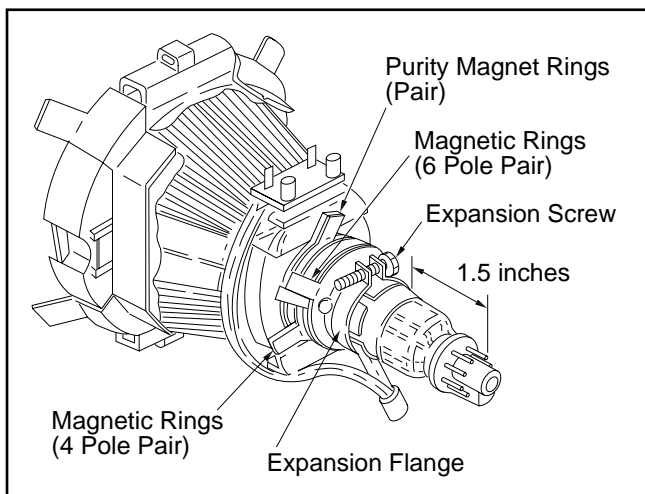

Fig. E9
1. Mount and secure Deflection Yoke so that the rear edge of expansion flange is 1.5 inches from the tips of the CRT pins as shown in Fig. E9.